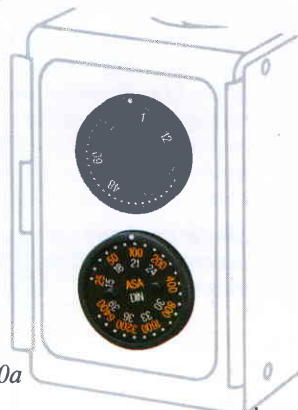

Fig. 10a
*29 should be set to correspond with the type of film in use, this information will be automatically transferred to the exposure control mechanism in the camera body (Fig. 10a).*